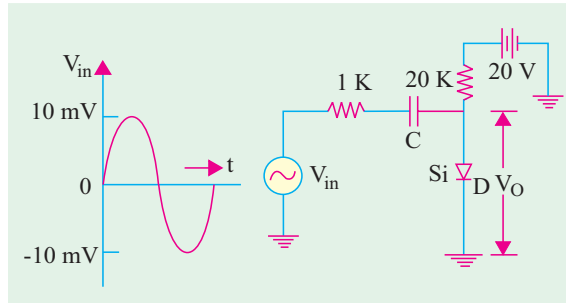

Fig. 52.28
**Example 52.17.** The silicon diode shown in Fig. 52.28 has a bulk resistance of  $1 \Omega$ . The frequency of the  $10$  mV (peak) signal is so high that the reactance of the coupling, capacitor may be taken as zero. Sketch the approximate waveform of the total voltage ‘V’ across the diode.